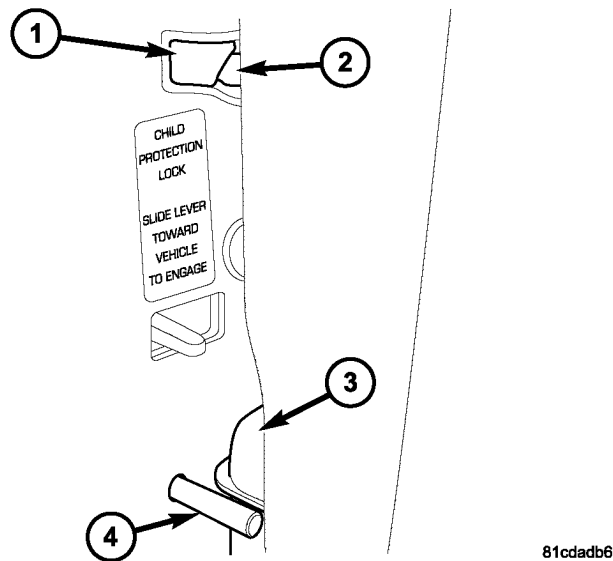
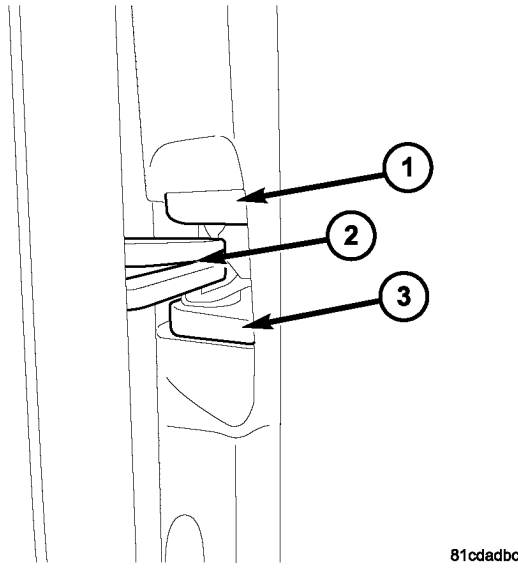

Fig. 7 LEFT LATCH AND FUEL DOOR BLOCKER
Fig. 8 LEFT REAR LATCH, VIEW FROM INSIDE VEHICLE
54. After all adjustments are complete, double check alignment of the fuel door striker into the blocker latch on the left sliding door, and the latch to striker alignment at the rear of both sliding doors. These **MUST** go straight into the latching mechanisms (Fig. 7) and (Fig. 8).